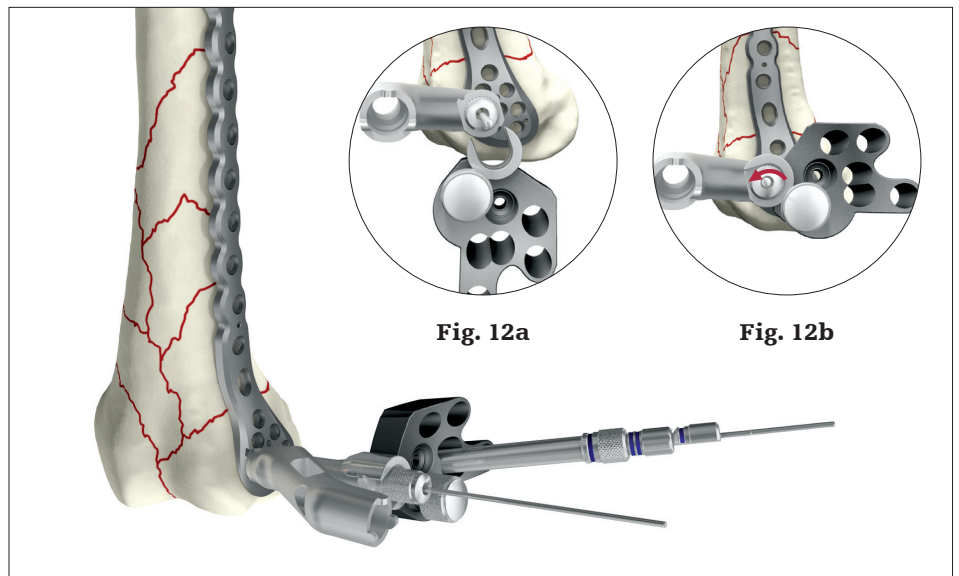

Fig. 12
Remove the trocar, replace it with the K-wire sleeve (ref 703531) and insert a Ø2.0mm x 315mm K-wire (ref 703561) (fig. 12).